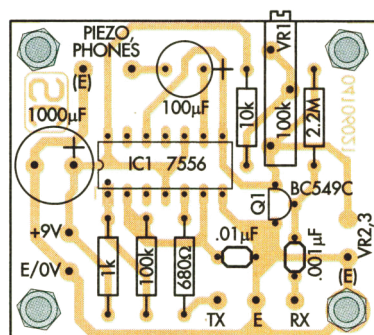

Fig.3: the PC board isn't very big – and there's not much on it!
- PVC piping, joints, nuts and bolts as required (see Fig.3)
The PC board of the Matchless Metal Locator measures 48mm x 42mm, and is coded 04106021. There are not many components, so it should be easy to assemble the board using the PC board overlay diagram in Fig.3.